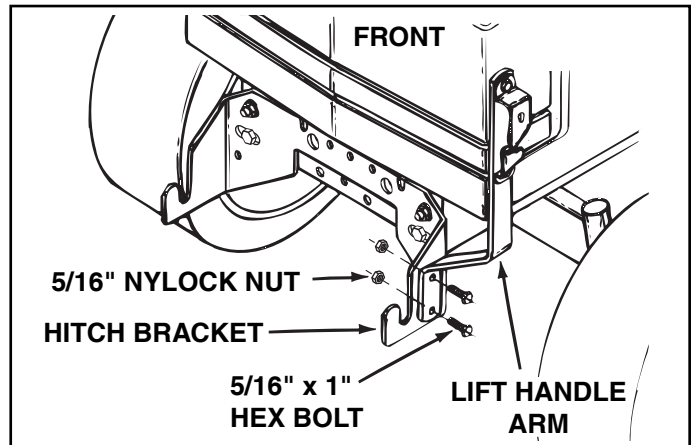

FIGURE 12
17. Assemble lift handle arm to left side of hitch bracket using two 5/16" x 1" hex bolts and 5/16" nylock hex nuts. See figure 12.